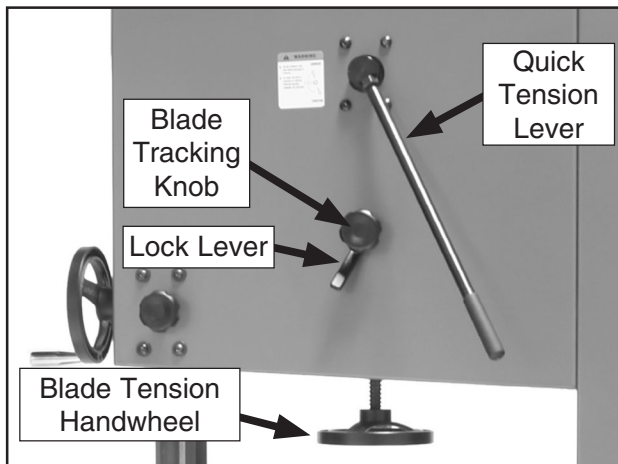

Figure 18. Blade tensioning controls.
3. Move the quick tension lever to the tightened position and turn the blade tension handwheel until the blade tension matches the mark on the blade tension scale for the appropriate blade thickness (**Figure 18**).